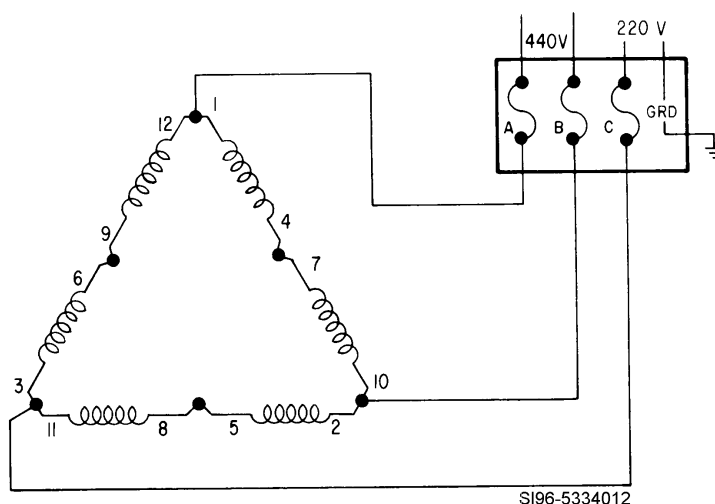

Figure 19, Three-Phase Delta-Connected Motor for High Voltage
- Figure 19 shows a schematic diagram of a delta-connected motor for high voltage (440 volts).